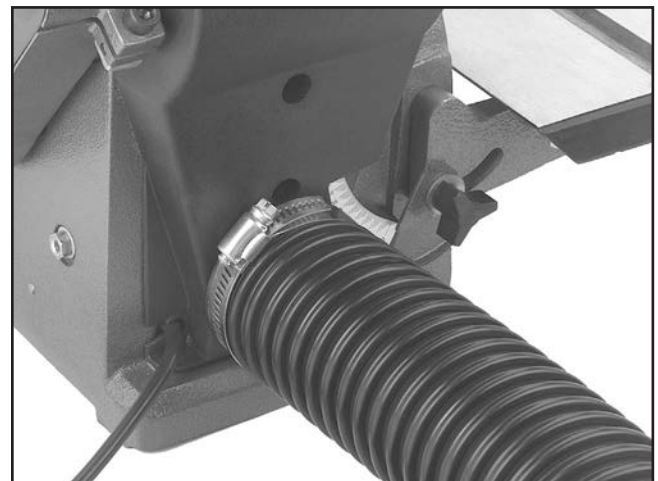

Figure 13. Dust hose attached to dust port.
1. Fit 2½" dust hose over dust port, as shown in **Figure 13**, and secure in place with hose clamp.